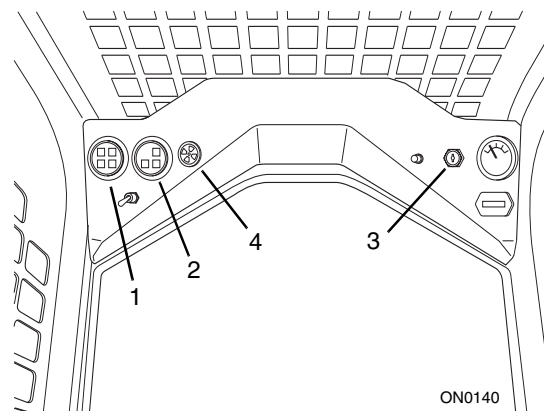

Figure 8-3 Instrument Panel Warning Lights
There are four warning lights in the left cluster (Fig. 8-3, 1), and three lights in the right cluster (2). When the ignition switch (3) is turned to the RUN position, the warning light alarm (4) will sound and the alternator charge and engine oil pressure lights will illuminate. This is a normal condition.
While the engine is running, all seven lights (Fig. 8-3, 1 & 2) and the alarm (4) should be OFF. However, if any of the lights illuminate, an abnormal condition exists and you should STOP the vehicle immediately.
The alarm (Fig. 8-3, 4) will only sound when the engine water temperature, engine oil pressure or hydraulic/transmission oil temperature lights come on, indicating that an abnormal condition exists that requires the vehicle engine to be STOPPED immediately.